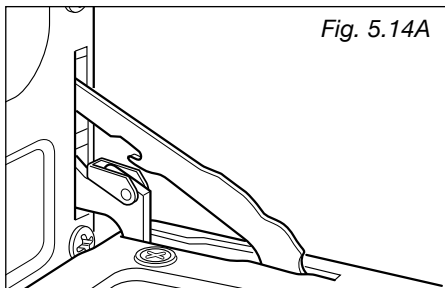

Fig. 5.14A
- Open the door to the full extent (fig. 5.14A).